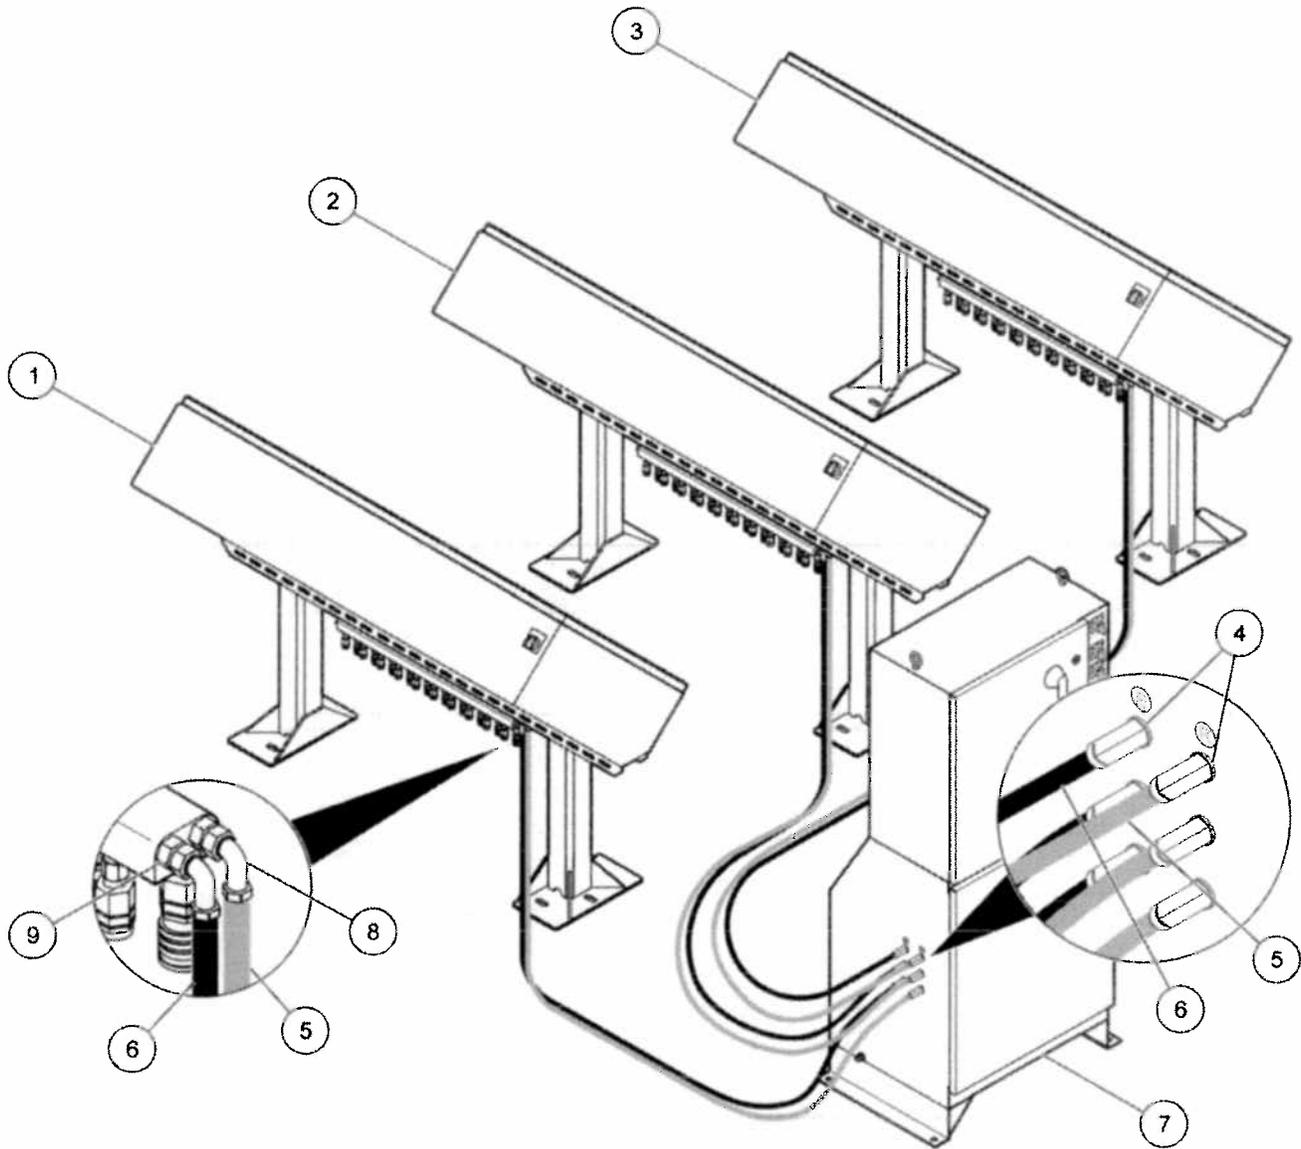

Figure 13 Hydraulic line connections, HSC Multibank
Refer to Figure 13 and the instructions in this section to connect hydraulic lines.
7. Flare-fit the line at the HSC connection point. Attach the line marked E to the Extend (E) port on the HSC and attach the line marked R to the Retract (R) port for the hydraulic line pair. Make sure that the compression nuts are tight. (Figure 13 on page 30)
9. Cut the Extend (E) and Retract (R) hose to length and attach the female 90-degree hose barbs to each hose (Figure 13 on page 30).
- b. Connect a female 90 degree hose barb to one end of a new length of hydraulic black Extend (E) hose and another female 90 degree hose barb to one end of new length of hydraulic blue Retract (R) hose (Figure 13 on page 30).
- e. Cut the Extend (E) and Retract (R) hose to length and attach the female 90-degree hose barbs to each hose (Figure 13 on page 30).